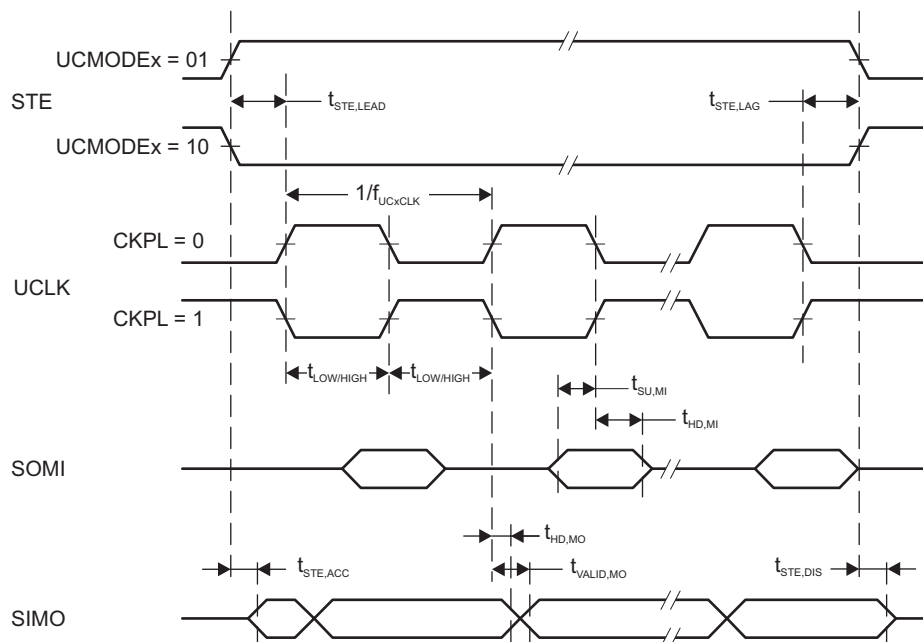
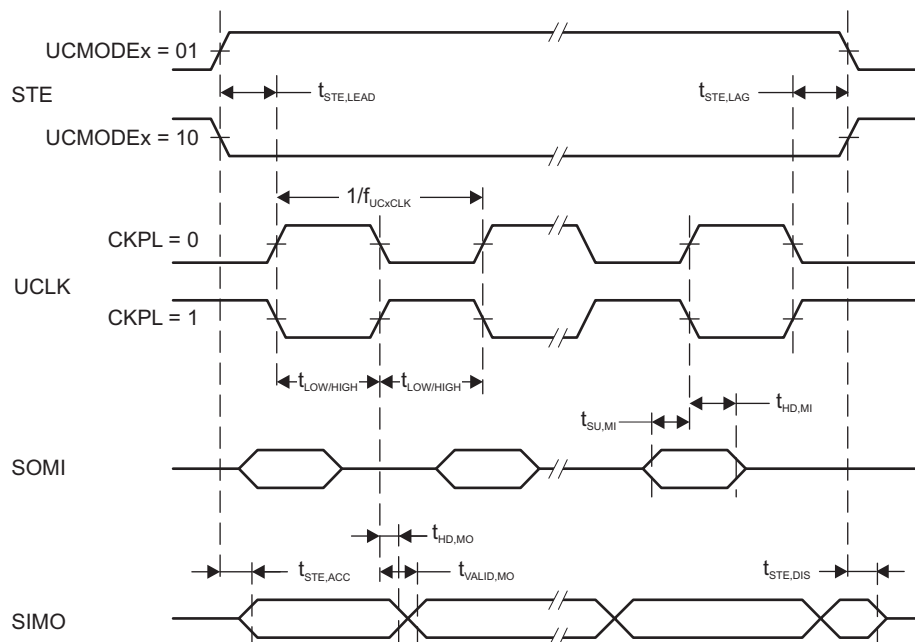

Figure 4-15. SPI Master Mode, CKPH = 0
Figure 4-16. SPI Master Mode, CKPH = 1
- (1) $f_{UCxCLK} = 1/2t_{LO/HI}$ with $t_{LO/HI} = \max(t_{VALID,MO}(eUSCI) + t_{SU,SI}(Slave), t_{SU,MI}(eUSCI) + t_{VALID,SO}(Slave))$. For the slave parameters $t_{SU,SI}(Slave)$ and $t_{VALID,SO}(Slave)$, see the SPI parameters of the attached slave.
- (2) Specifies the time to drive the next valid data to the SIMO output after the output changing UCLK clock edge. See the timing diagrams in Figure 4-15 and Figure 4-16.
- (3) Specifies how long data on the SIMO output is valid after the output changing UCLK clock edge. Negative values indicate that the data on the SIMO output can become invalid before the output changing clock edge observed on UCLK. See the timing diagrams in Figure 4-15 and Figure 4-16.